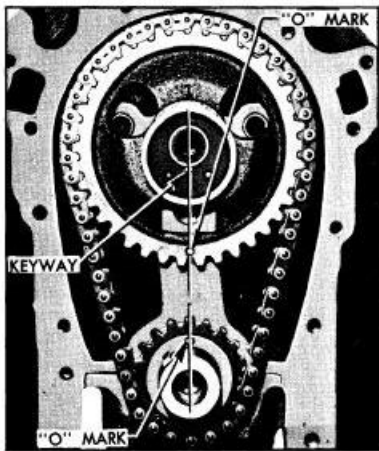

Figure 2-24—Timing Chain and Sprockets Properly Installed
4. If there has been doubt about the valve timing, turn crankshaft until the camshaft sprocket keyway is straight down toward the crankshaft and the "O" timing marks on both sprockets are toward each other and in line with shaft centers. See Figure 2-24.
7. When ready to install timing chain, turn crankshaft until Nos. 1 and 4 pistons are on top dead center. Turn camshaft so that the sprocket key points straight down toward crankshaft. See Figure 2-24.
8. Place timing chain over the camshaft and crankshaft sprockets so that the "O" marks stamped on front faces of sprockets are nearest each other and aligned between the sprocket hubs. Install sprockets with chain on the two shafts. See Figure 2-24.